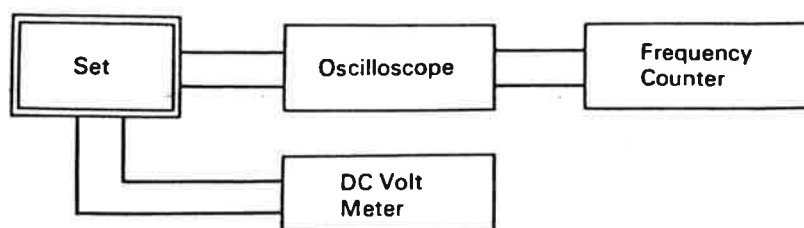

Figure 15
- 2) Connection of test equipment is shown in figure 15.